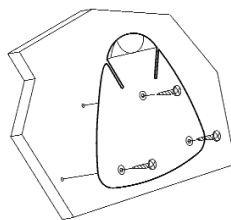

Fig. 2
2. Drill three 2.5mm holes marked "A" on the Template and using the supplied self tapping screws, screw the clip bracket to the mounting surface (Fig.2).